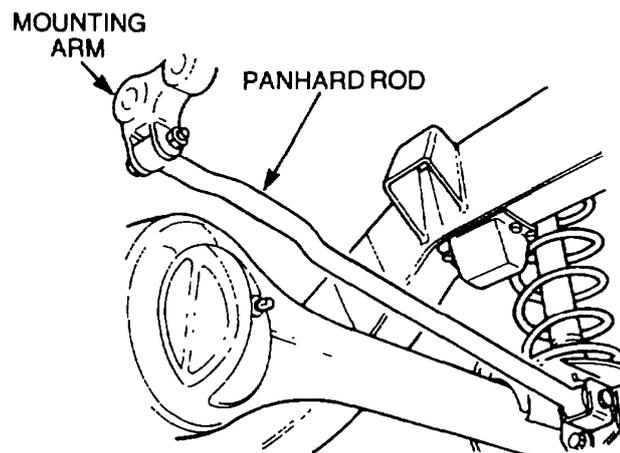

Figure 146 Panhard Rod Removal
- a. Remove the locknut and bolt securing the rod to the chassis mounting arm (Figure 146).